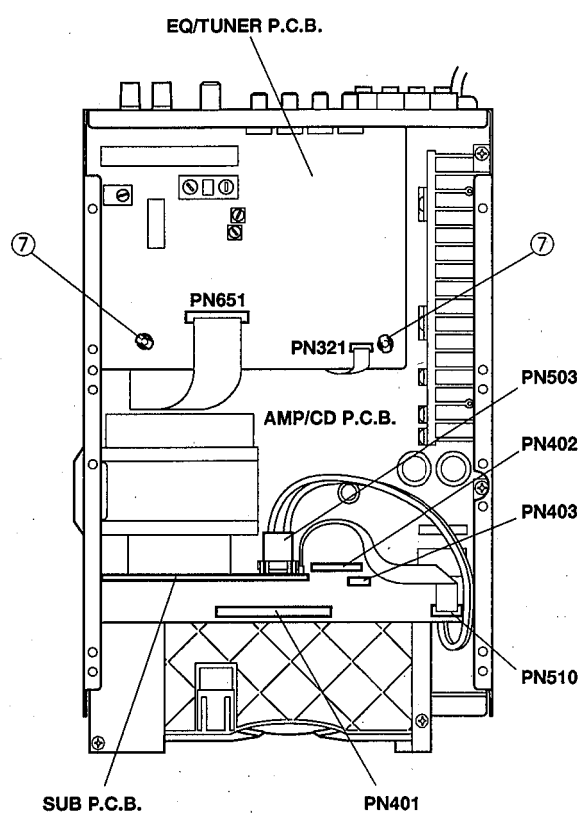

Fig. 2
- Disconnect the Flat Connecting Cable (PN401) and the Connectors (PN402, PN403) in Fig. 2
- Disconnect the Connectors (PN651, PN321) in Fig. 2.
- Detach the P.C.B. Supporters (⑦) and then remove the EQ/TUNER P.C.B. in Fig. 2.
- Disconnect the Connectors (PN503, PN510) in Fig. 2.
- Remove 4 screws (⑧) and then remove the SUB P.C.B. in Fig. 2.